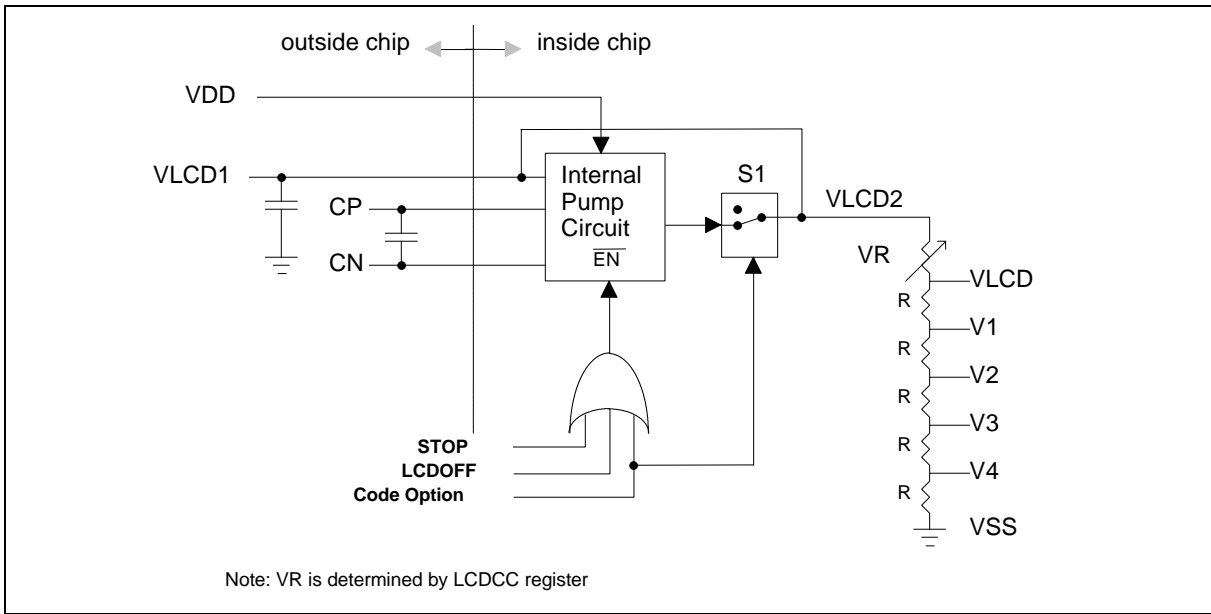

Figure 5-18 LCD power control circuit
LCD power (VLCD2) has two source, one is directly from the VLCD1 pin, another is from internal pump circuit. The LCD power source is selected by mask option. The pump circuit doubles the μC input voltage (VDD), **the power consumption in internal pump mode is more than directly input from VLCD1**. The LCD pump circuit only works in the VDD range from 2.4V to 4.0V. If the operating voltage of VDD is up 4.0V, the LCD power should come from the VLCD1 pin. The LCD contrast is adjustable by an internal variable resistor (VR). VLCD voltage is controlled by setting bit2, bit1 and bit0 of LCD contrast control register (LCDCC). LCDCC is determined by executing `MOV LCDCC,#I`. The Figure 5-18 shows the LDC power control as below: